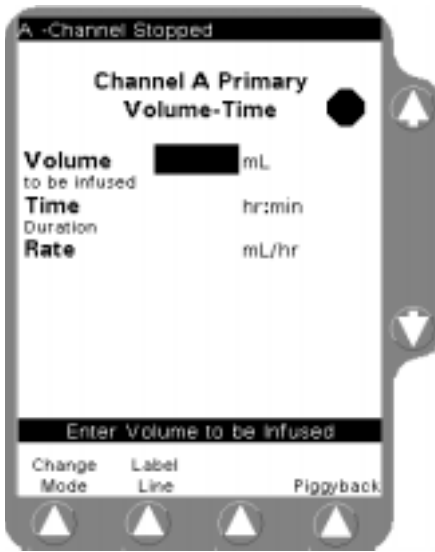

Figure 5-26 Volume-Time Programming Screen
- The Volume-Time Programming screen is displayed (Figure 5-26).